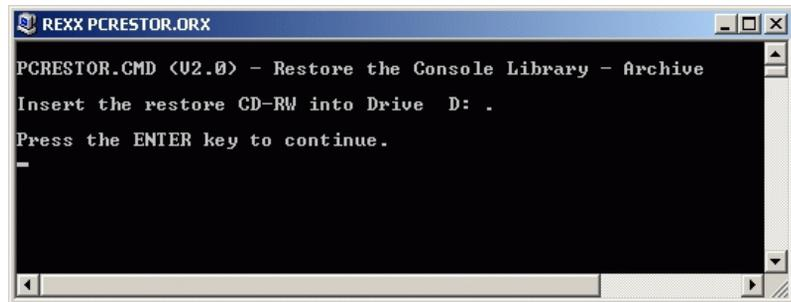

Figure 45 REXX PCRESTOR.ORX Window
3. The REXX PCRESTOR.ORX window displays (Figure 45).